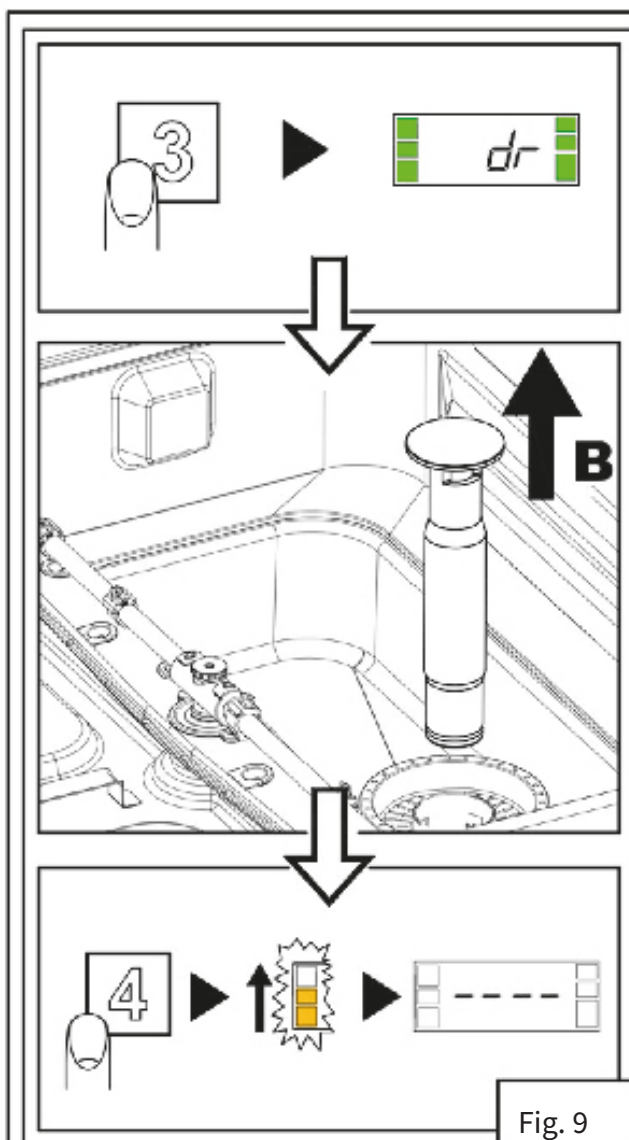

Fig. 9
- If the model has an overflow, pull upwards (Fig. 9)
- Press the START button (4) to start the cycle.